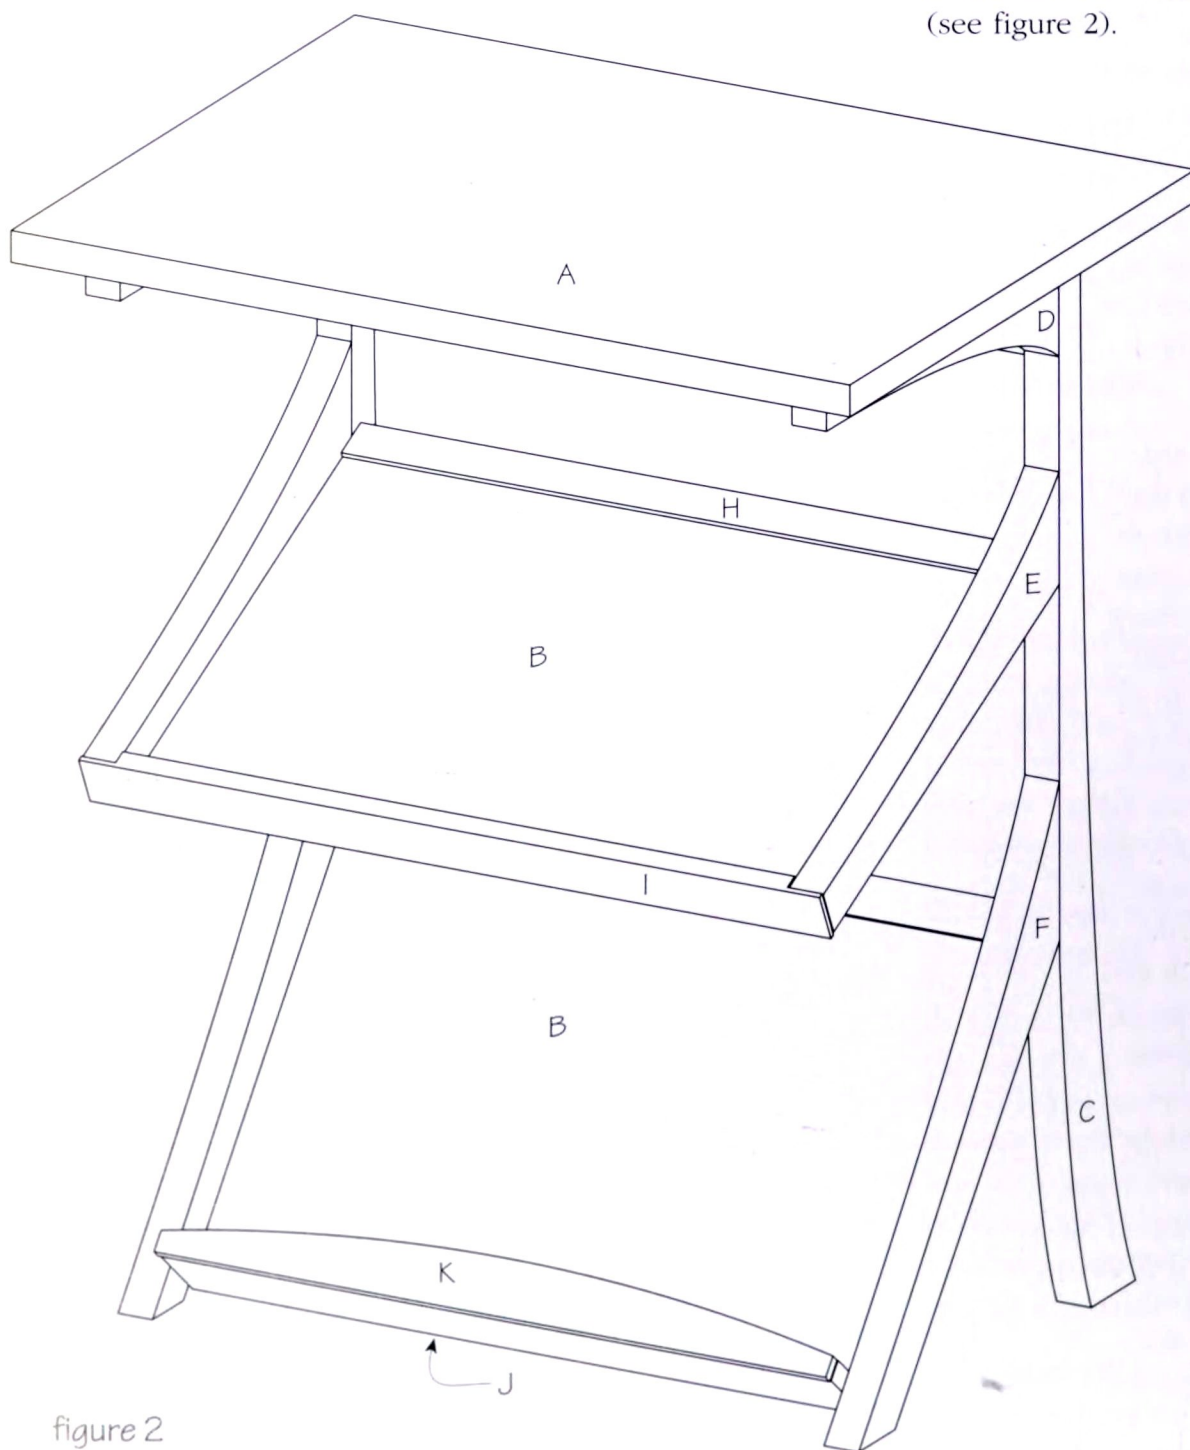

figure 2
3. Assemble a middle arm (E) with a biscuit and its leg (C), matching the index lines. With the joint tight, slide the end of a panel into the rabbet with its back edge touching the leg, and mark its front edge on the arm. Stack the two middle arms and cut their front ends at this mark.
4. The back frames (H), lower lip (J), and lower front (K) will all be 17" long. Use the apron (G) to set the drop stop (refer to page 12) on your miter gauge and cut these pieces to length.
5. The middle lip (I) has $\frac{7}{8}$ " x $\frac{3}{8}$ " deep rabbets on its ends to cover the end grain of the middle arms. To make cutting these joints easier, first cut the middle lip to $18\frac{7}{8}$ " long. The space between the rabbets is 17", so use the apron again to mark this length, centered, on the rabbetted face of the middle lip. Cut to these lines with the table saw blade set just $\frac{3}{8}$ " high. Set the rip fence using the back of the panel rabbet as a gauge, and set the blade height to the middle of the kerf from the first cut. Then carefully cut off the waste piece by feeding the middle lip vertically past the blade, backed up with the square end of a piece of scrap.
6. One more loose end: saw and smooth a fair curve on one edge of the lower front (K). Leave $\frac{1}{2}$ " of width at the ends to cover the front edge of the lower lip (see figure 2).